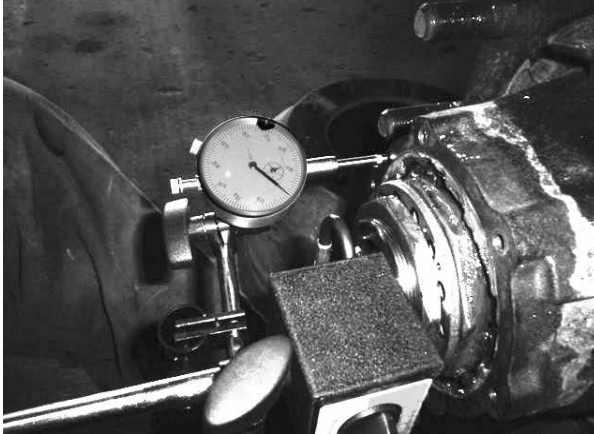

Figure 6: Checking end play
Dial Indicator, with mounting stand (resolution to 0.0001", 0.002 mm)	End-play measurement (Figure 6 on page 8)
4. Attach dial indicator (Table 2 on page 6) with magnetic base to flat surface at end of spindle (Figure 6).